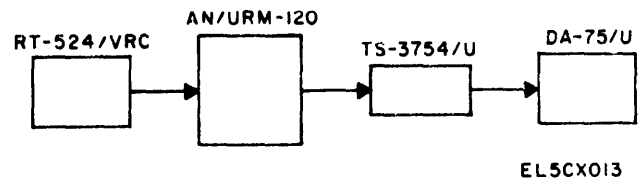

Figure 8-6. Alignment setup.
b. Setup equipment for alignment (fig. 8-6).
Perform the procedures provided in table 8-3 utilizing the test setup shown in figure 8-6 to obtain